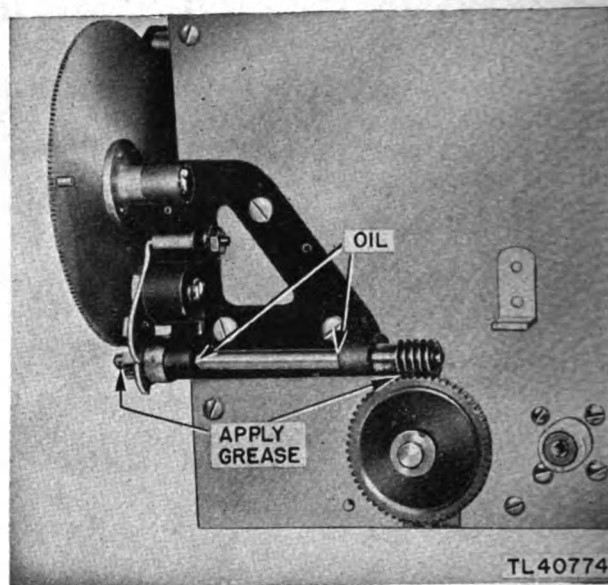

Figure 26. Transmitter-tuning gear assembly.
(2) Check tube clips on the modulator tube and those on the transmitter tubes ④ for good tight connections. If corrosion exists, remove the clips carefully and clean with crocus cloth and a cleaning agent. Be very careful because the seal on the tube breaks easily.
(3) Check jacks ② for corrosion and tightness of mounting.
(4) Inspect meter terminals ⑦ for tightness. Do not force the nuts; handle soldering lugs carefully, as extreme twisting will break the capacitor pigtailed. See paragraph 32 for additional information about meters.
(5) Check cable insulation ⑥ for cracks and other signs of deterioration. Handle carefully in cold weather.
(6) Inspect the connectors ③ for corrosion and tightness.
(7) Check the transmitter-tuning gears for lubrication. If the gears are dry, proceed as follows:
(a) Using the finger, apply a small quantity of grease to the teeth of the worm gear ⑤. Figure 26 shows where to apply the lubricants.